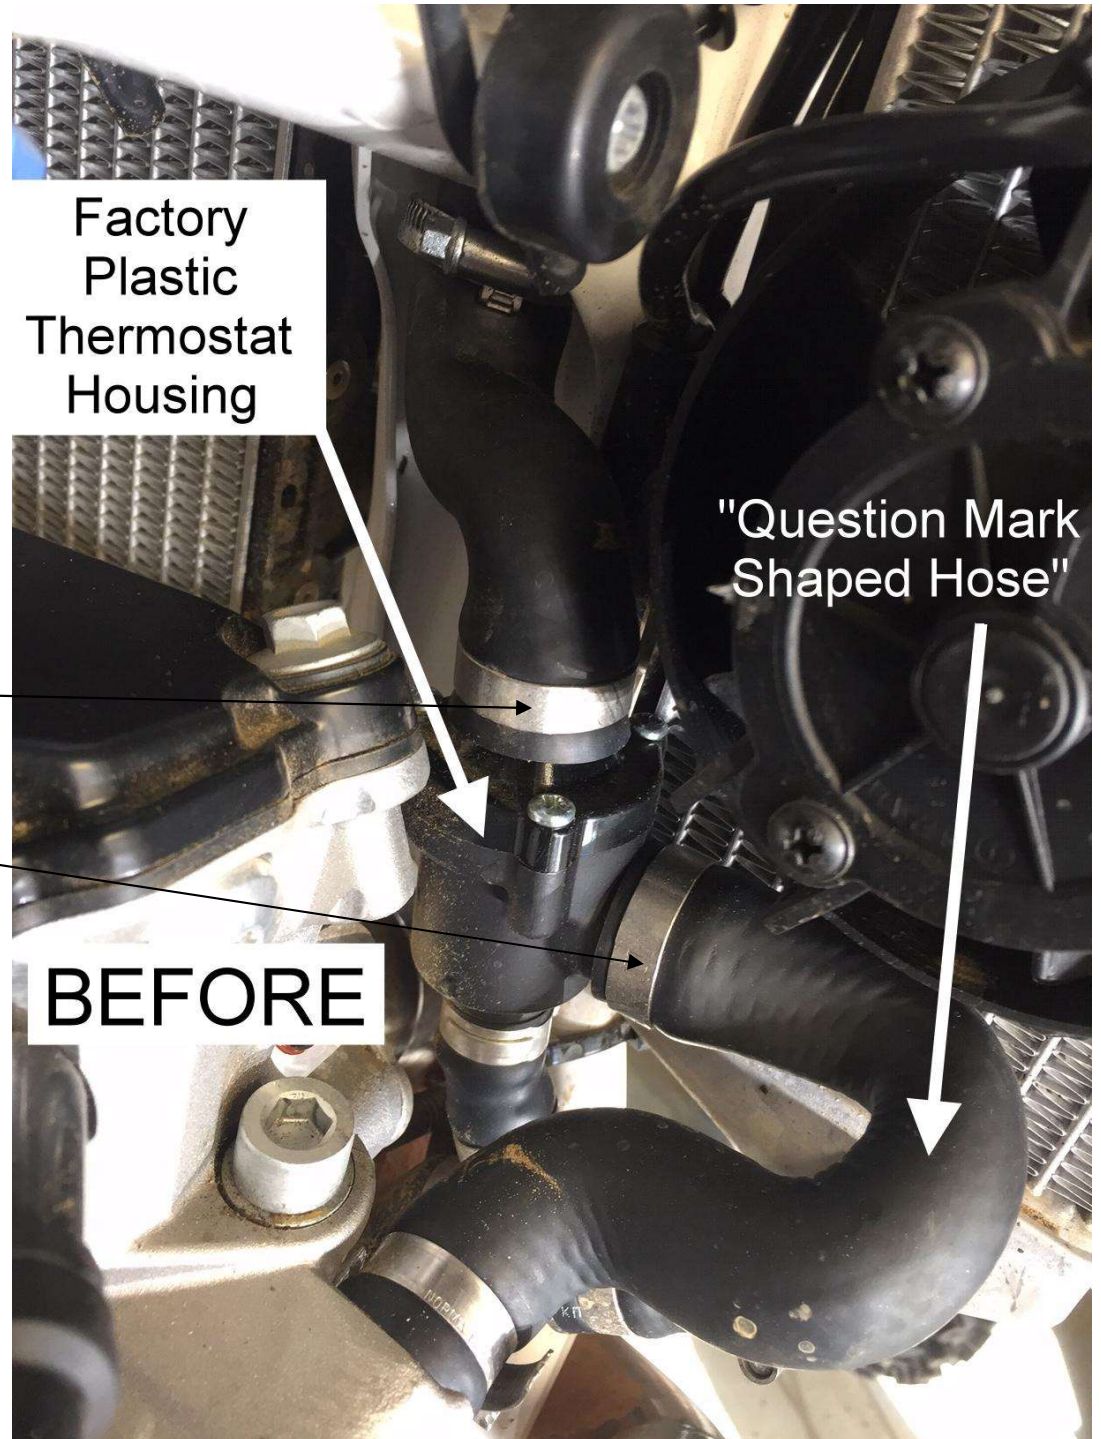
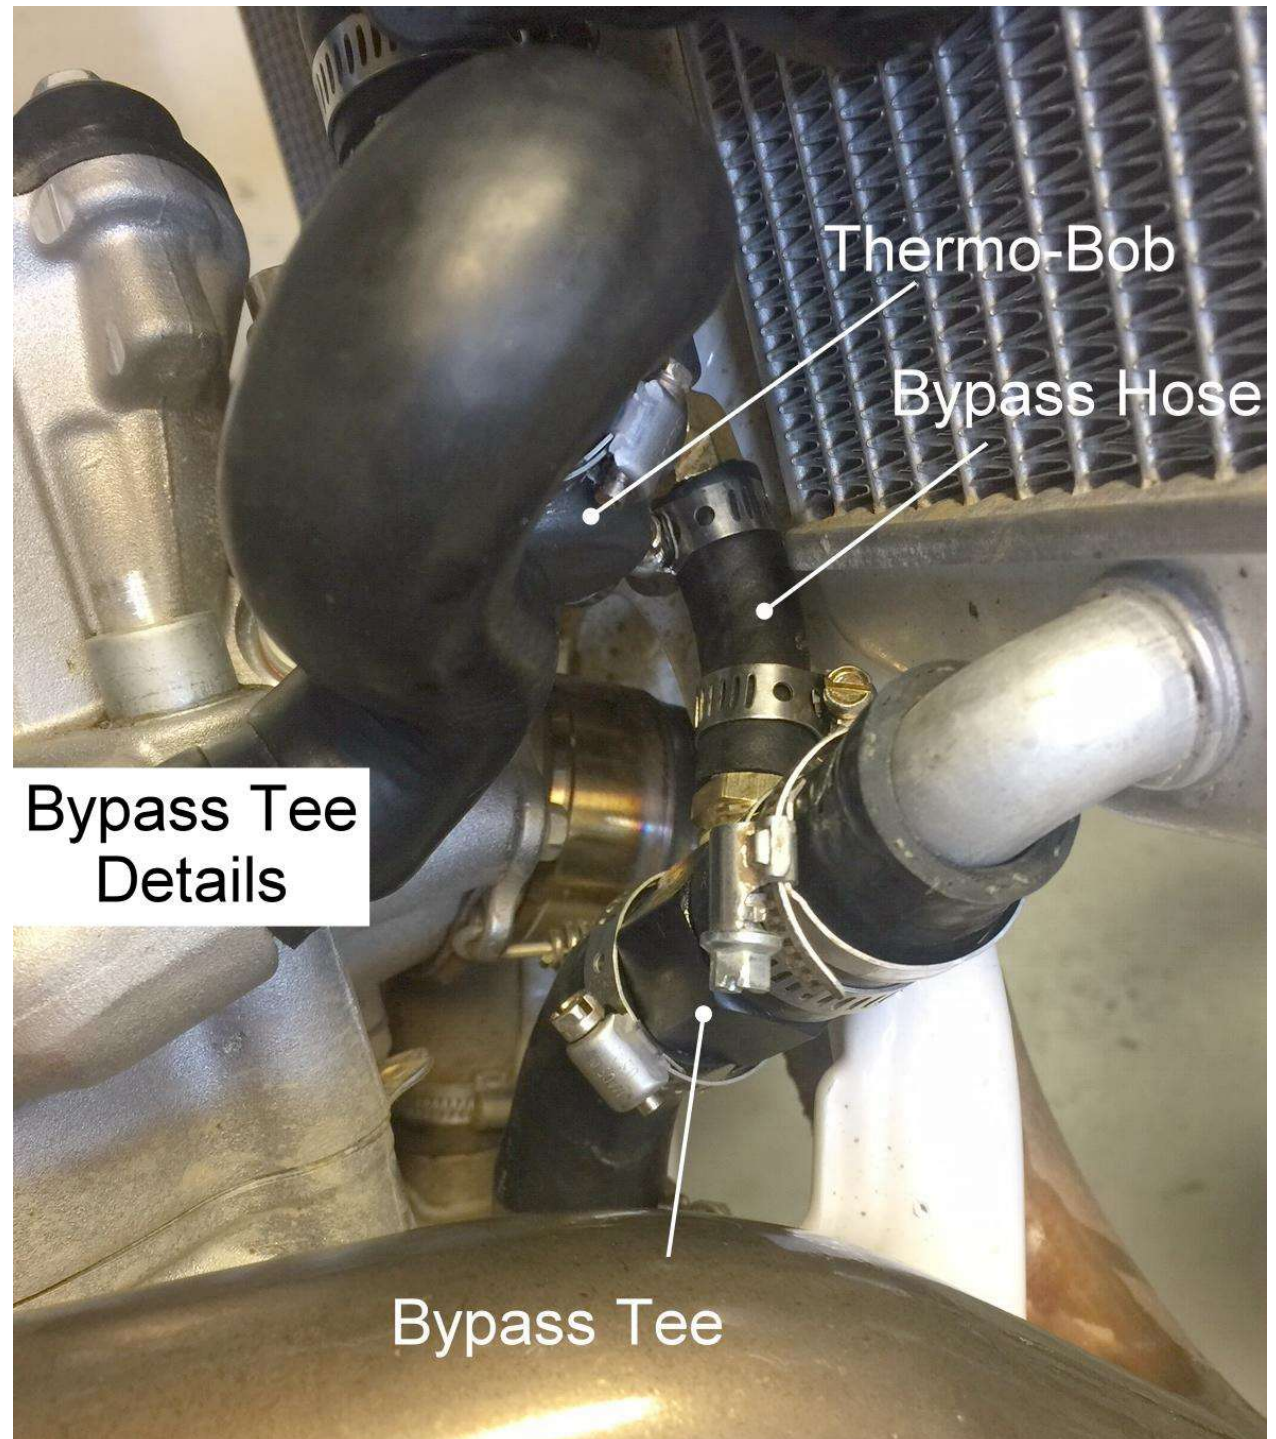

Figure 2.
Figure 4.
- 4) Remove the factory plastic bypass tee from the lower hose and install the supplied aluminum bypass tee in the line instead. If using method (B), note that you'll remove our straight brass barb and instead, install your own 90 degree brass barb in its place.
- 5) Install the Thermo-Bob as shown in your selected method (Figure 2, Figure 4). Do not tighten clamps yet, but think about the orientation of each clamp to facilitate tightening once installed on the bike.